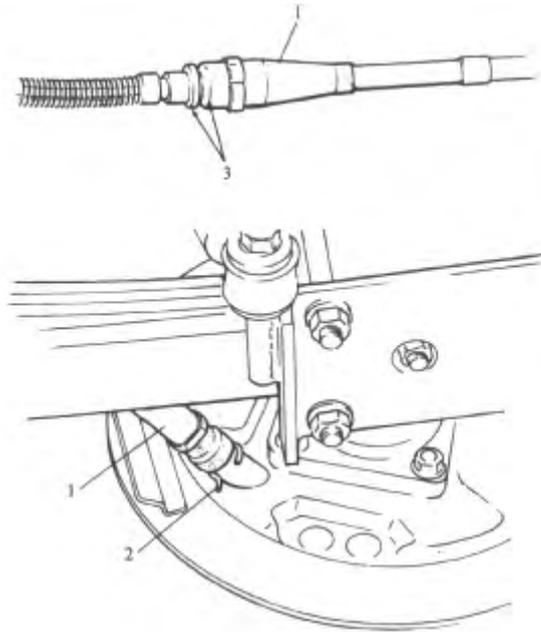

FIG 13-34: 1-brake cable;2-applying sealant
(9) Apply sealant to surface of parking brake cable to mate with brake back plate. After install brake cable through brake back plate, fix it with clamp. (FIG13-34)